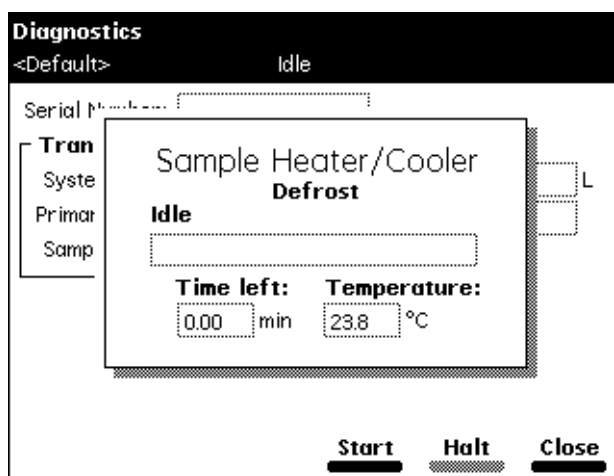

Figure 8-20 Defrost Sample Cooler Screen
1. Select **Defrost** in the Other Diagnostics screen, then press **OK**. The Defrost Sample Heater/Cooler screen appears (Figure 8-20).